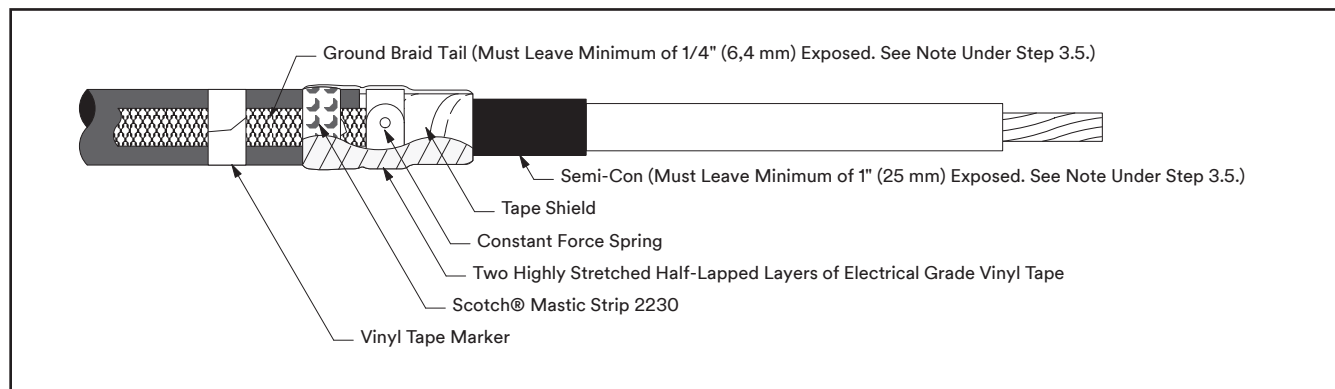

Figure 5
- 3.5 Wrap two highly stretched half-lapped layers of electrical grade vinyl tape around mastic seal, constant force spring and exposed tape shield (Figure 5). **Be sure to cover all exposed mastic AND TO READ THE GROUND BRAID NOTE BELOW CONCERNING APPLICATION OF THE TWO HIGHLY STRETCHED LAYERS OF ELECTRICAL GRADE VINYL TAPE.**